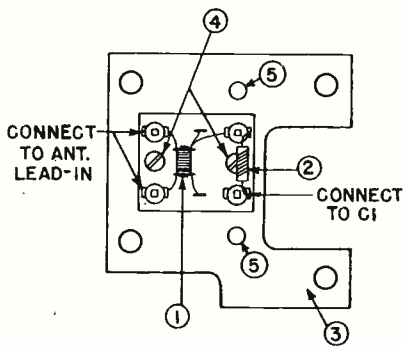
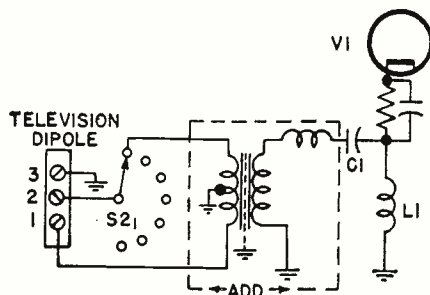

Figure 1
Figure 3
5. Assemble transformer (1) (see Fig. 1), Stock No. RLA-033 to mount-
ing plate (3), Stock No. RAP-008, using two No. 4-40 x 5/16" screws, nuts, and lockwashers. Solder choke (2), Stock No. RLI-037, as shown in schematic, Fig. 3, and mechanically mount as shown in Fig. 1. Also, fasten the two brass ground straps, removed in step (2), to the holes (5) shown in Fig. 1, using two No. 4-40 x 5/16" screws, nuts, and lockwashers.
7. Solder C_1 to choke as shown in Figs. 1 and 2.
8. Re-connect antenna input transmission line to terminals as shown in Fig. 1.